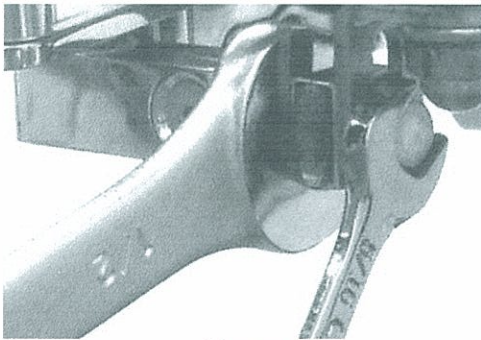

Figure 16
- 3.5 Place a 1/2" open end wrench on the square block end of the Slide(6) (**Figure 16**) to keep the slide from turning as you tighten the End Bracket Lock Screw(17). After tightening the screw, pull your brake lever to check for clearance. The brake lever should just touch the top of the Cam(8) and completely clear the back of the Clamp(3).